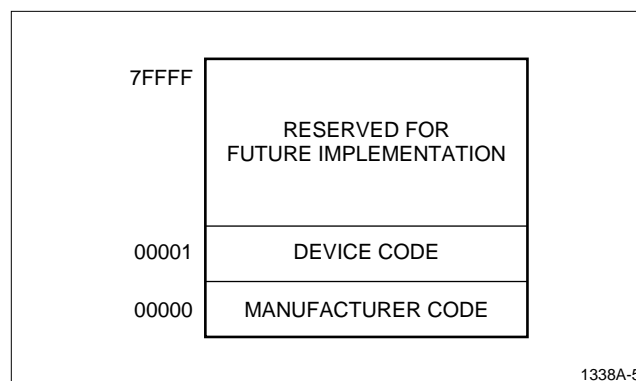

Figure 5. Device Identifier Code Memory Map
3. X = Any valid address within the device; IA = Identifier Code Address, see Figure 5.
The identifier code operation is initiated by writing the Read Identifier Codes command. Following the command write, read cycles from addresses shown in Figure 5 retrieve the manufacturer and device codes (see Table 7 for identifier code values). To terminate the operation, write another valid command. Like the Read Array command, the Read Identifier Codes command functions independently of the V_{PP} voltage and \overline{RP} can be V_{IH} or V_{HH} . Following the Read Identifier Codes command, the following information can be read.